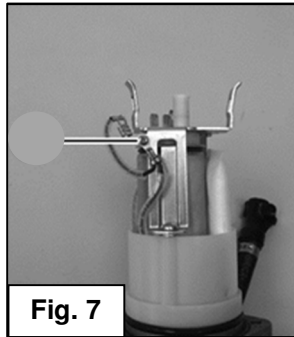

Fig. 7
8. Mount and tighten screw to 1Nm (**Fig.7**).